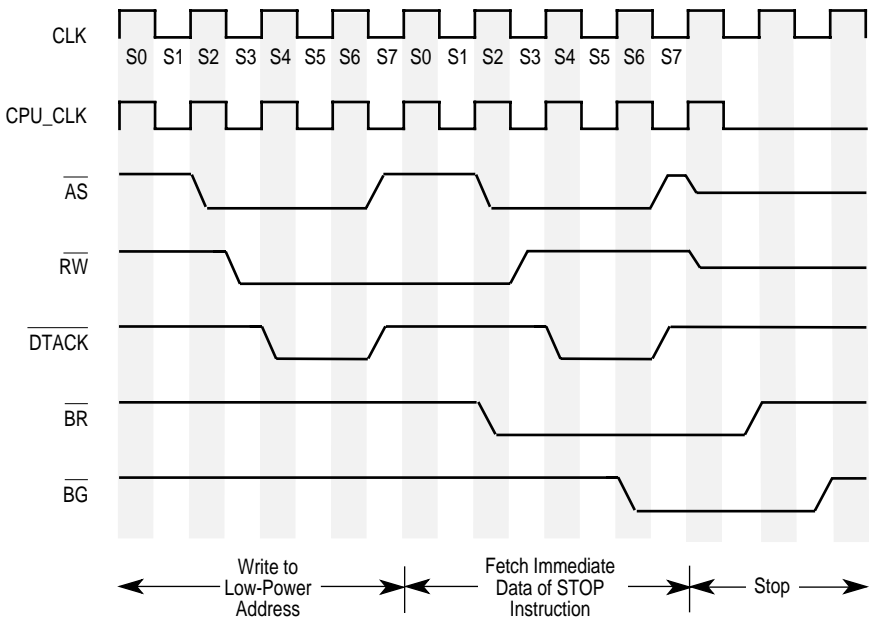

Figure 5. MC68SEC000 Clock Stop Timing with Bus Arbitration for 16-Bit Data Bus
- This step is optional depending on whether your applications require the MC68SEC000 signals with three-state capability to be placed into a high-impedance state. To place the MC68SEC000 into a three-state condition, the proper method for arbitrating the bus (as described in **5.2 Bus Arbitration** in the *M68000 User's Manual, Rev 8*) should be completed during the fetch of the status register data for the STOP instruction. A timing diagram with the bus arbitration sequence is shown in Figure 5.